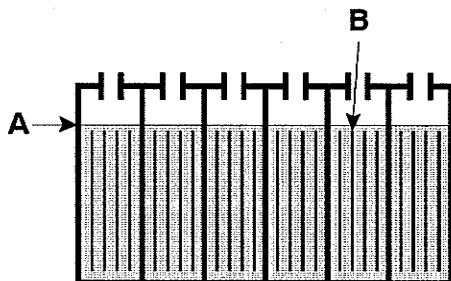

FIG. 27
4. Check fluid level "A" in each battery cell. Do not charge batteries unless fluid is slightly covering battery plates "B". If needed, add just enough distilled water to cover battery plates, do not overfill. Batteries can overflow during charging due to expansion. Replace cell caps before charging (Figure 27).